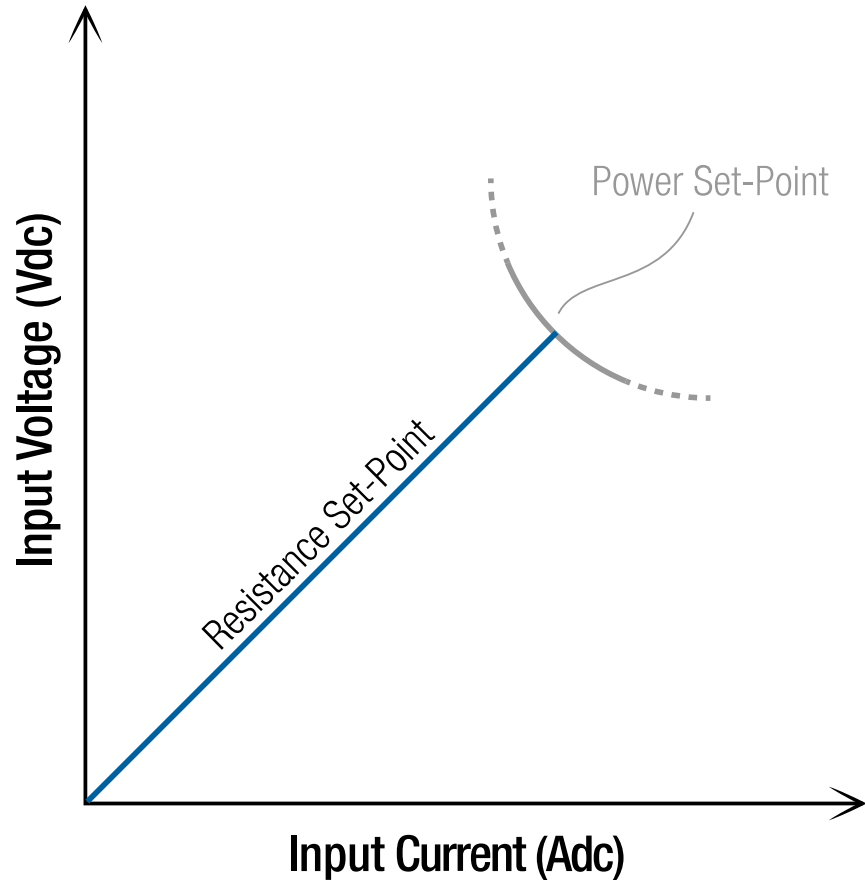

Fig. 4.11: Simplified Resistance Mode Operation Diagram. Refer to *Operating Profile* for operating profile constraints.
When Resistance Mode is selected, the MagnaLOAD electronic load will preference *Constant Resistance (CR)* regulation state over all other regulation states. The MagnaLOAD electronic load will operate in constant resistance regulation within the set-point boundaries indicated in grey in Fig. 4.11. If the connected DC source drives the DC bus to one of the bounding set-point limits, the MagnaLOAD electronic load will auto-crossover to the appropriate regulation state. To avoid auto-crossover, the bounding set-point limits should be set sufficiently high to increase the constant resistance operating range. Programming a current set-point and voltage set-point is disabled in Resistance Mode as the two regulation states conflict with the resistance regulation state. *Protection and Diagnostics* for voltage, current, and power can also be used to shutdown the MagnaLOAD electronic load when a maximum desired limit is reached.